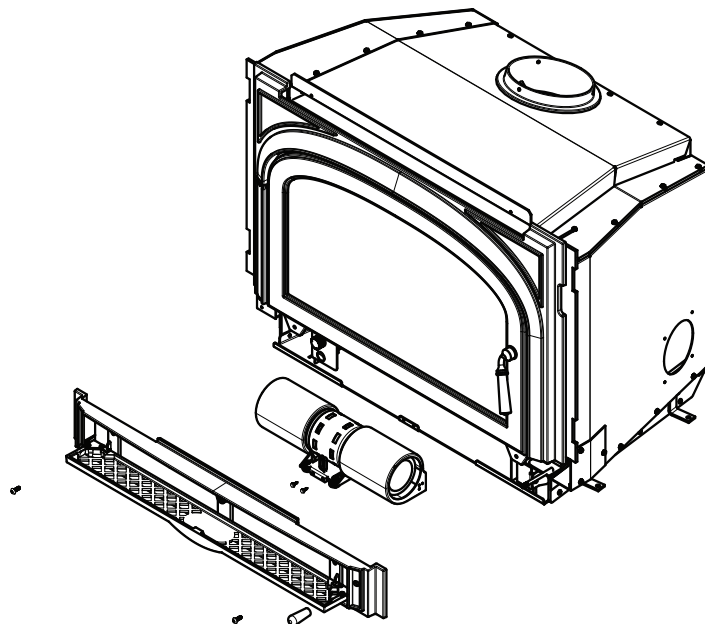

Figure 23.1
2. The grille on the blower access assembly is hinged. Swing the grille downward to expose the 2 screws (Figure 23.1).